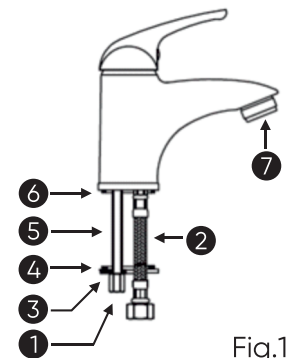
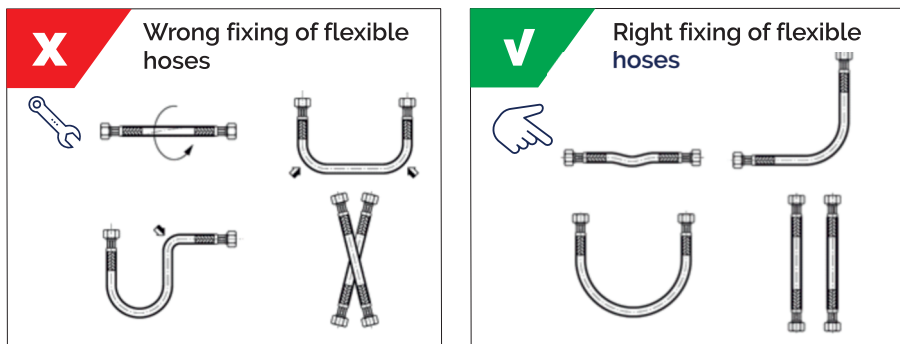

Fig.1
Fig.3
- The taps are installed with the use of the fixing set (see fig. 1)
- Screw in the connection hoses (2) and the fixing screw to the tap (5)
- The connection hoses should be screwed in manually; up to the point when resistance occurs. Screwing in the hoses strongly with the use of a flat wrench can result in damage to the hoses. The hoses must be installed according to the pictures show in figure 3
- Insert the tap with the bottom gasket (6) to the mounting hole
- Put the gasket (4) and the washer (3) on the fixing screw
- Screw in the fixing nut (1) on the fixing screw